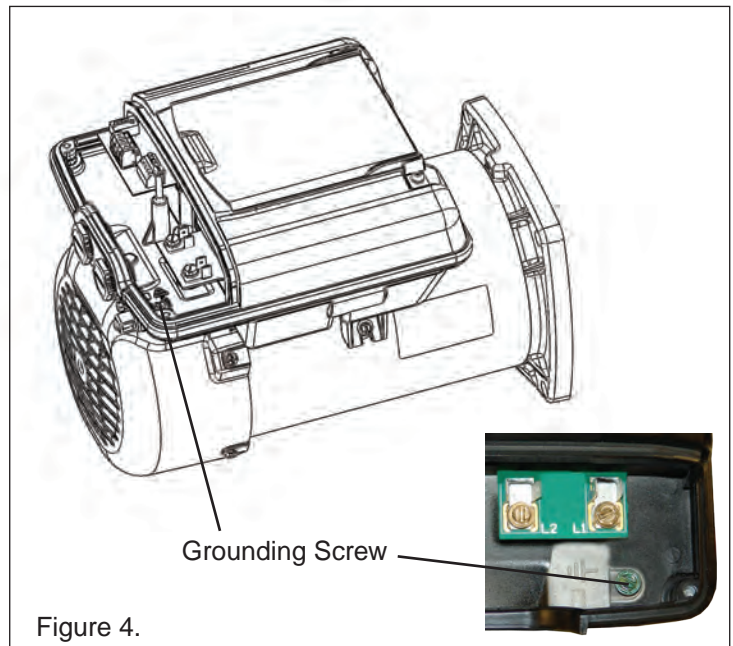

Figure 4.
6. Permanently ground the motor using the ground screw located on the inside rear of the controller interface, **see figure 4**. Use the correct wire size and type specified by the current National Electrical Code. Be sure the ground wire is connected to an electrical service ground.